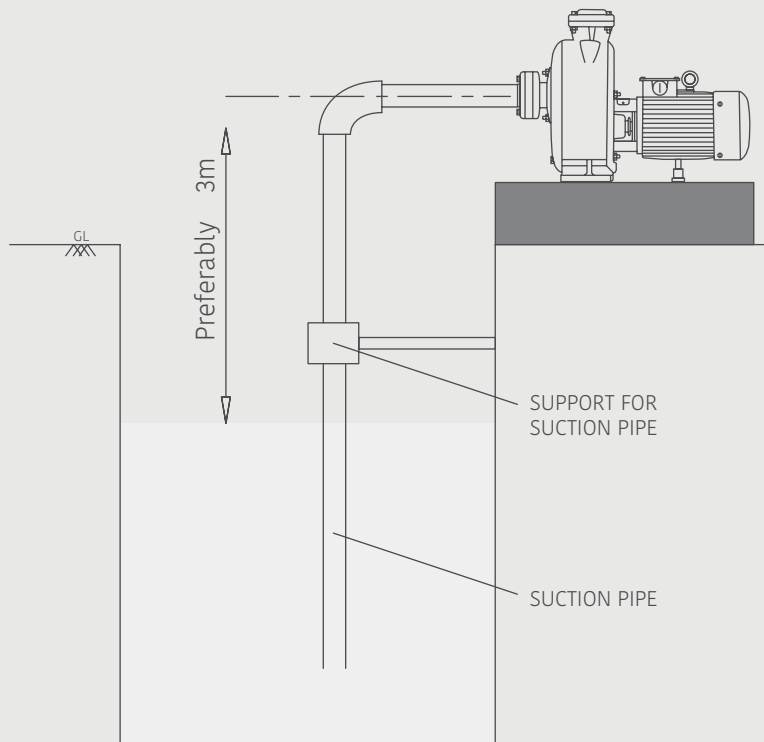

Fig. 2
4. The free end of the suction pipe fixed above the bottom of the well. Refer Fig. 2, shown below, for recommendations: